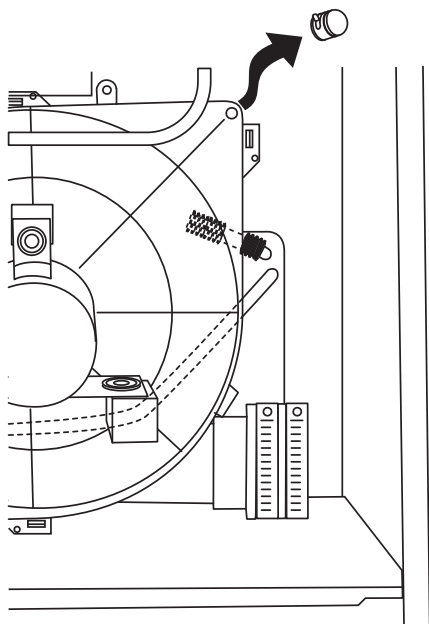

Fig. 48 - Inducer Housing Drain Tube Cap
1. Remove upper inducer housing drain connection cap. (See Fig. 48.)